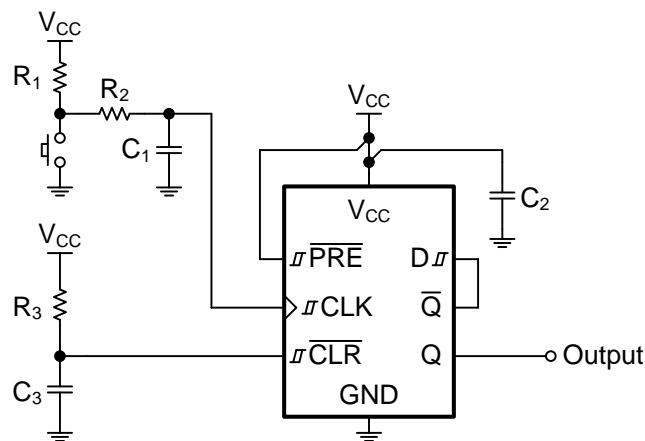

Figure 12. Device Power Button Circuit
With the SN74HCS74-Q1, a power on reset circuit only requires a resistor (R) and capacitor (C) to create a delay. The R and C values create a delay that is approximately  $2.2 \times RC$ . An additional Schmitt-trigger input device would be required to allow this slow rise if the flip-flop did not have Schmitt-trigger inputs. In this application, it is desired to have the output (Q) in the LOW state at startup, so  $R_3$  and  $C_3$  are connected directly to the  $\overline{CLR}$  pin, as shown in Figure 12.